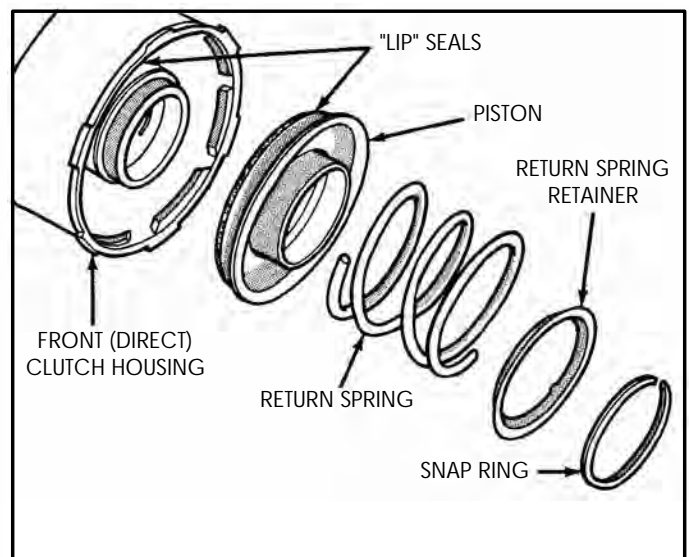

Figure 70
6. Remove the piston, return spring, and retainer from front (Direct) housing (See Figure 70).
7. Remove and discard the inner lip seal from the front drum (See Figure 70).
8. Remove and discard the outer lip seal from the front clutch piston (See Figure 70).
11. Install **new** lip seal on the front clutch piston with the lip facing away from the top of the piston (See Figure 70).
12. Install **new** lip seal into the groove in the front clutch housing, with the lip facing bottom of the housing (See Figure 70).
15. Install the front clutch piston return spring, as shown in Figure 70.
16. Install the front clutch return spring retainer on top of the return spring (See Figure 70).